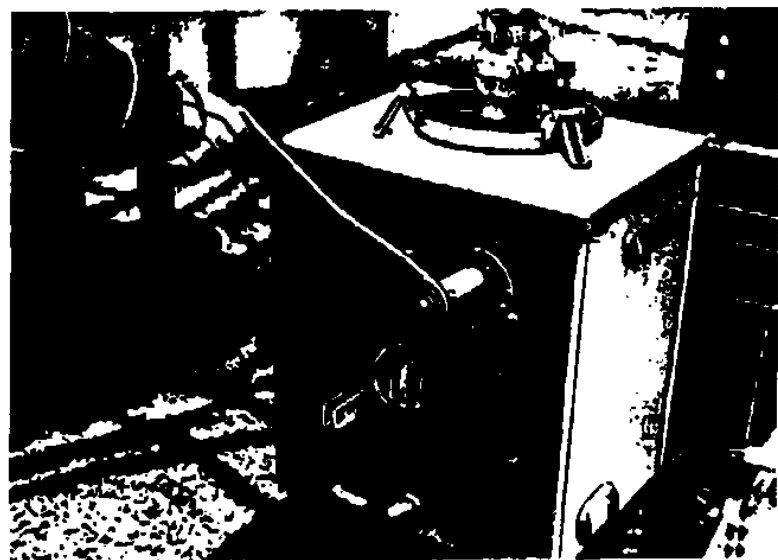

Fig. 2. Manual operation.
- f. Insert the operating handle and manually crank the motor operator (Fig. 2) until the notch in the fixed coupling is over the imaginary line for the CLOSED position.